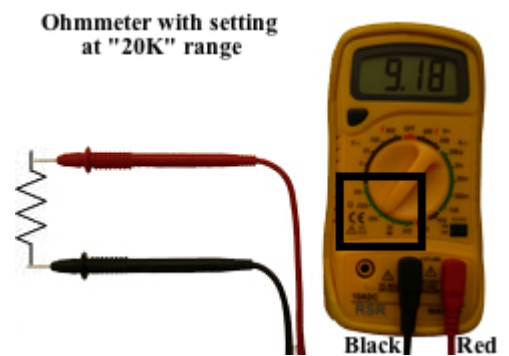

Figure 2.7: Using Digital Multimeter
4. Put the leads from the DMM on each side of the component being measured as shown in Figure 2.7. If the DMM screen displays "1.", this indicates that the range setting should be higher or the resistance is more than the maximum which can be measured on the range setting. For example, the Ohmmeter's rotary switch is at the "2k" mark. It should be changed to "20k" for a proper reading. If the DMM screen displays ".000", this indicates that the range setting should be lower. For example, the Ohmmeter's rotary switch is at the "200k" mark. It should be changed to "20k" for a proper reading. Continue adjusting the range setting as necessary.
5. For reading the value, each range of the Ohmmeter has a letter indicating the prefix for the unit. For example, the range setting of "20k" indicates that the unit is in Kilo Ω . Figure 2.7 shows that the Ohmmeter is set at "20k" range, the reading on the screen is "9.18." This means the resistance should be roughly 9.18K Ω .